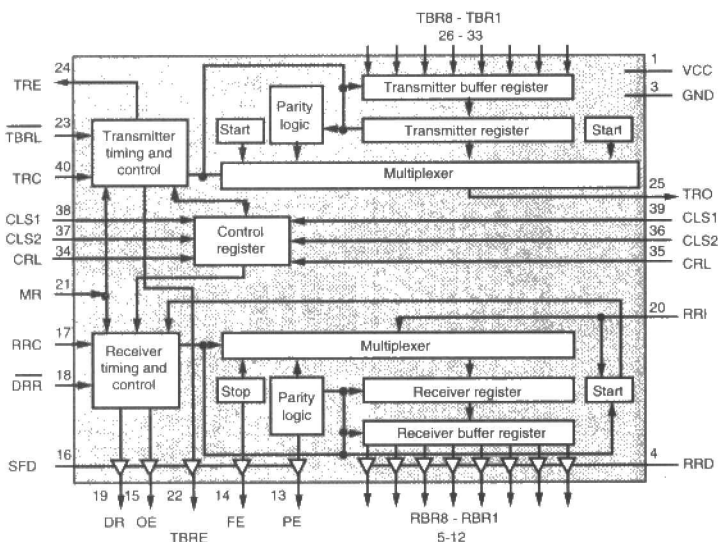

Figure 7: pin-out and the internal block diagram of the 6402 UART
The pin-out and the internal block diagram are shown in figure 7. Pin 21 is the Master Reset (MR), which should be at the logic low state in normal operations. Pins 35 through 39 control the serial data format. To enable the control pins, pin 34 (Control Register Load, CRL) must be at logic high. A high level on pin 35 (Parity Inhibit, PI) inhibits parity generation and check. It also forces the Parity Error (PE, pin 13) pin to stay low. When PI is low, a high level on Even Parity Enable (EPE, pin 39) selects even parity. A low level on EPE pin selects odd parity. Pin 36 (Stop Bit Select) high selects 1.5 stop bits for 5-character format and two stop bits for other data lengths. If it is low, one stop bit is selected. Pins 37 (Character Length Selected, CLS2) and 38 (CLS1) select the data length: CLS1=0, CLS2=0 for five bits; CLS1=1, CLS2=0 for 6; CLS1=0, CLS2=1 for seven bits and CLS1=1 and CLS2=1 for eight bits.